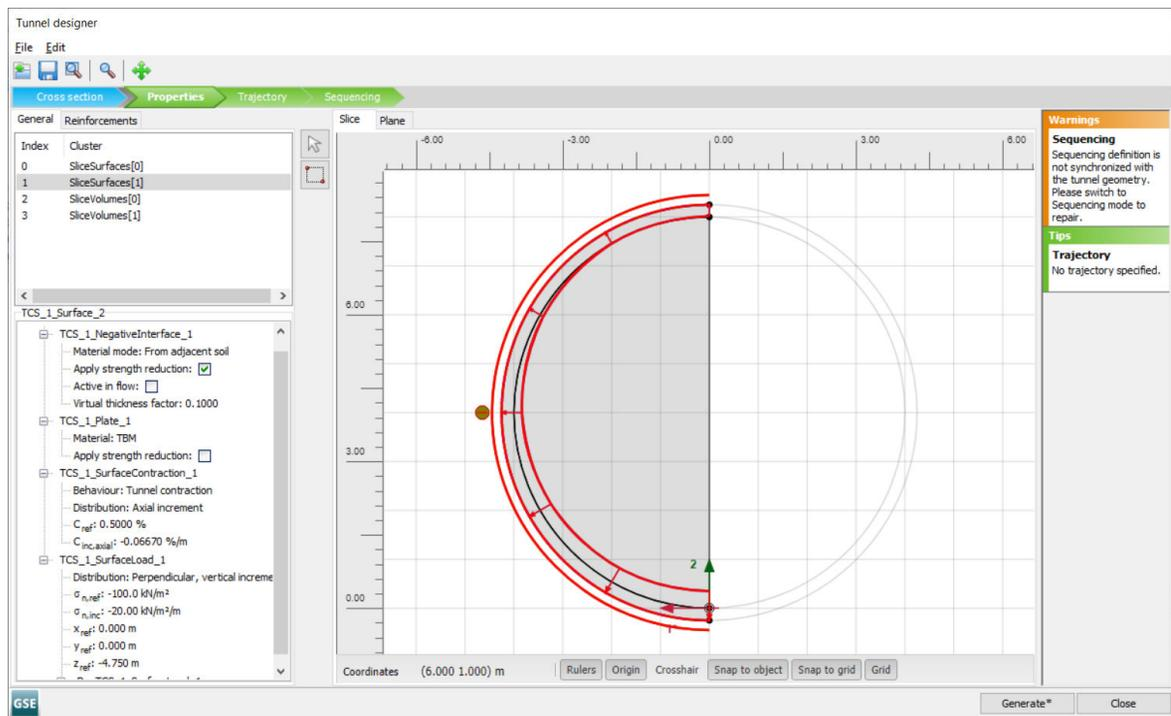

Figure 65: Slice tabsheet in the Tunnel designer
3. Set the $\sigma_{n,ref}$ to -100 and $\sigma_{n,inc}$ to -20 and define $(0 \ 0 \ -4.75)$ as the reference point for the load by assigning the values to x_{ref} , y_{ref} and z_{ref} (Figure 65 (on page 91))